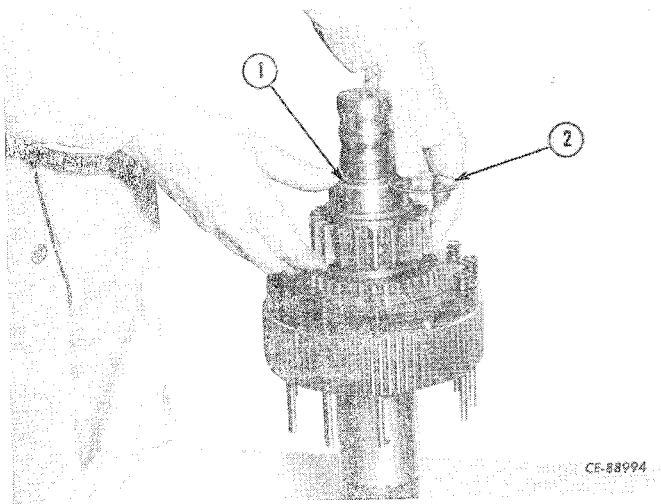

Figure 4-130
Check for clearance at the snap ring groove (1, Fig. 4-130). Do not preload the thrust bearings. With the snap ring (2) in place, check the free travel of the drive gear. Free travel must not be less than the recommended minimum. (Refer to "TOLERANCES.")